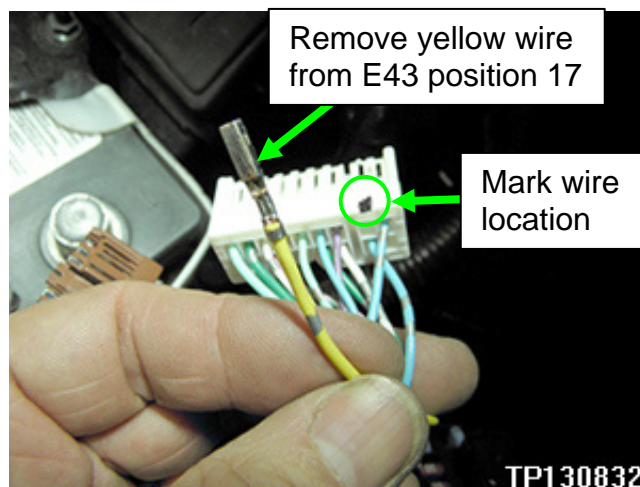

Figure 3
5. Mark connector E43 (Figure 3) with a felt marker next to position 17, on the “harness side”.